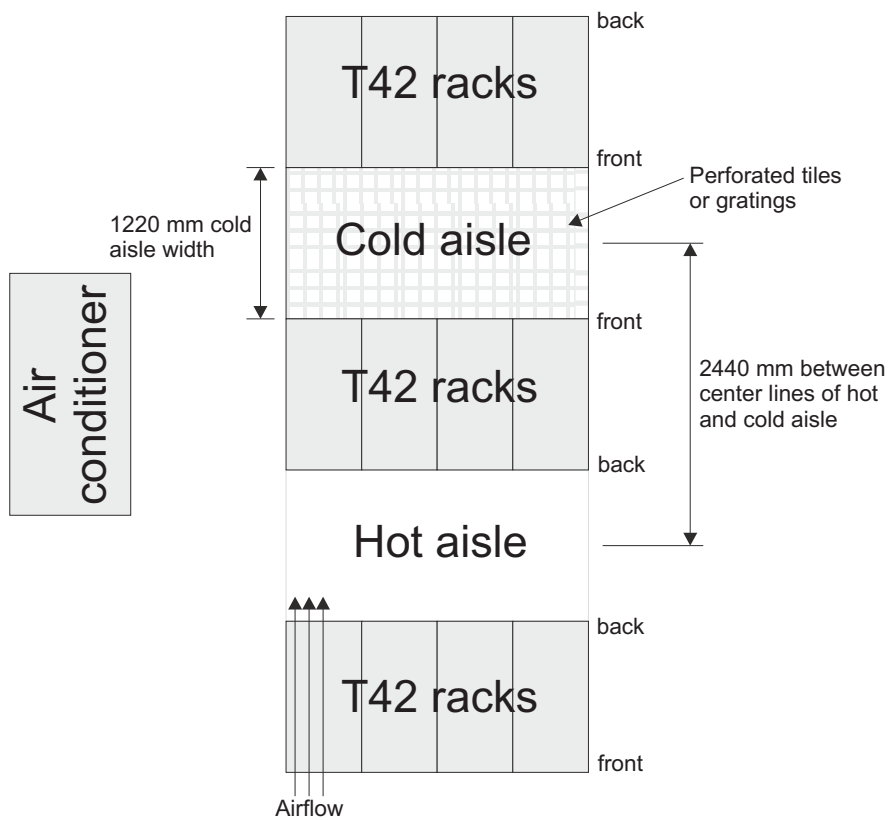

Figure 9. Example of cold aisle/hot aisle rack configuration
- Air enters at the front of the rack and leaves at the back. To prevent the air that is leaving the rack from entering the intake of another piece of equipment, you must position the racks in alternate rows, back-to-back and front-to-front. This arrangement is known as “cold aisle/hot aisle” and is shown in Figure 9 on page 22.